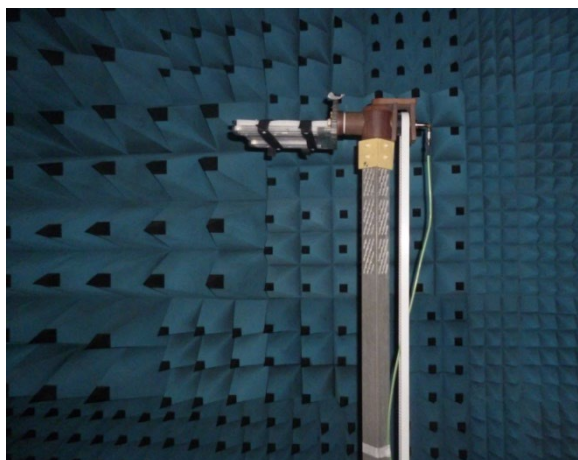

Figure. 3
- B. The antenna under tested is arranged in the turned table and a decoupling sleeve is used to reduce feed line radiation (see figure. 3).